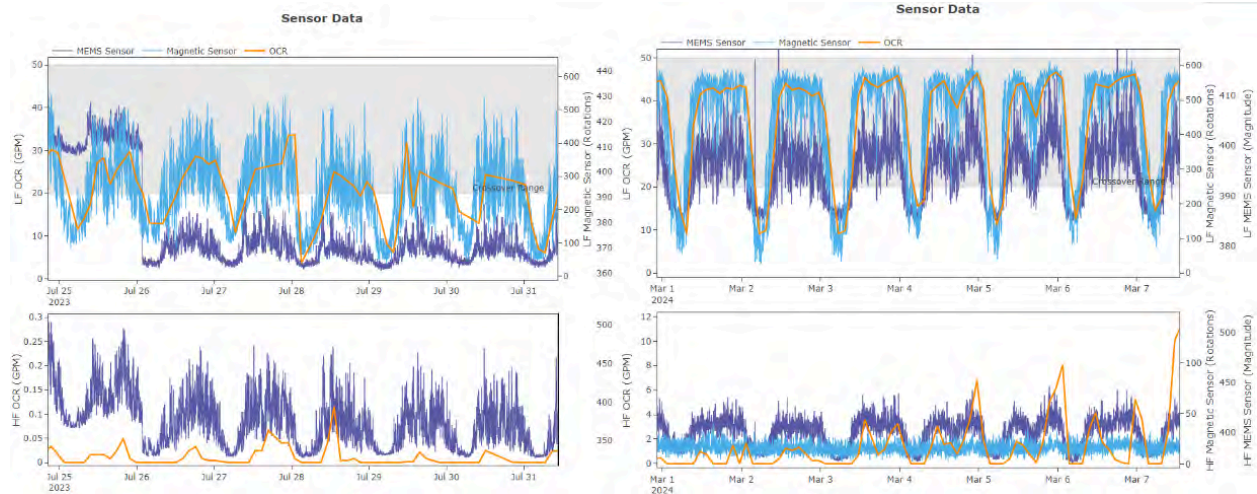

Figure 34 - Pre and post meter repair comparison
- The high flow side meters flow is now reaching 8 GPM, compared to its previous maximum level of 0.1 GPM (Figure 34).